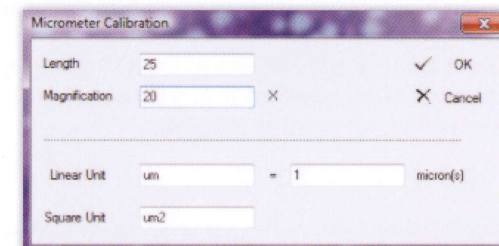

Figure 4
6. Drag the cursor over a known distance then left click again to complete the operation, resulting in the display of the Micrometer Calibration dialog (Refer to Figure 4).